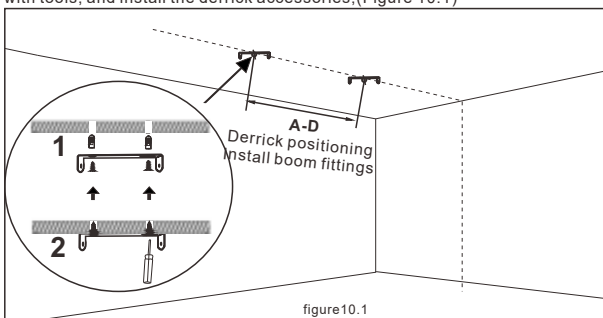

figure10.1
2. In the track installation area, mark the straight line and position the installation position with tools, and install the derrick accessories;(Figure 10.1)